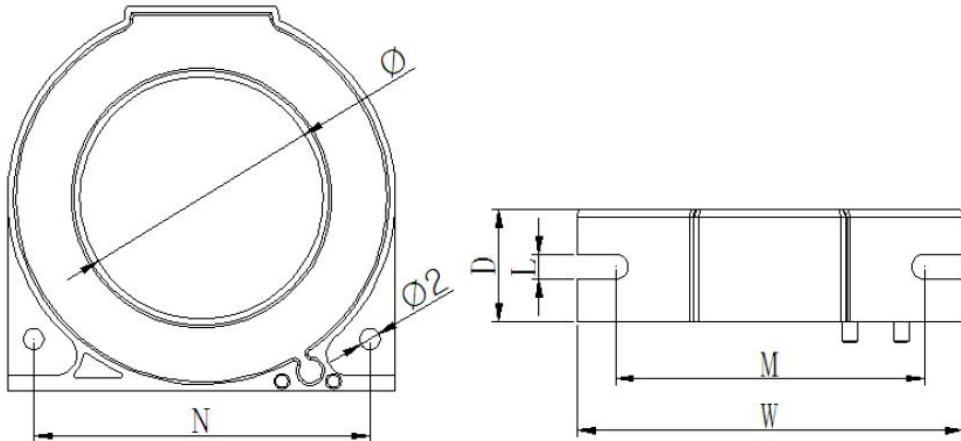

Figure 7 The external dimensions of leakage current transformer
5.3.3 The external dimensions of leakage current transformer are shown in figure 7 and table 6 (Unit: mm):